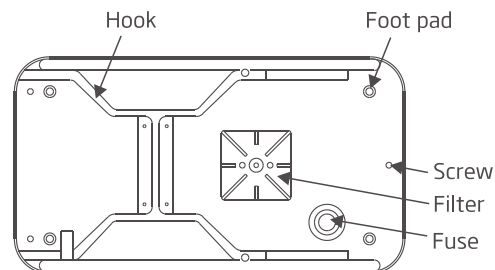

Figure 3
▶ Instruction of the bottom of the air pump.( Figure 3)